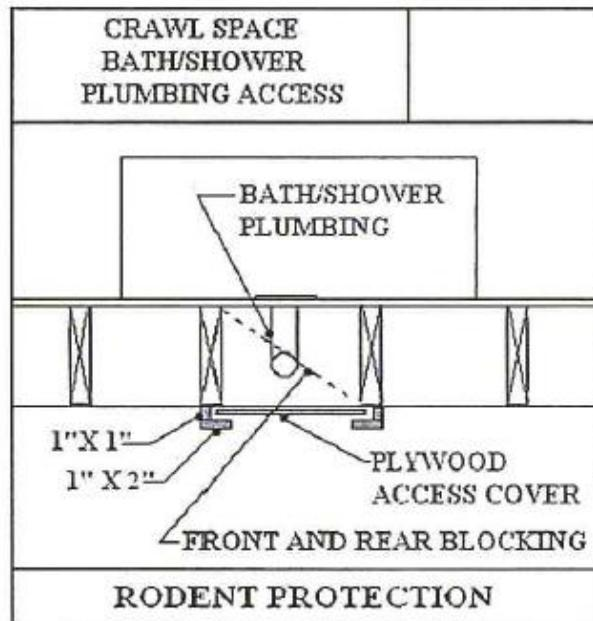

FIGURE A-1
- Tub waste openings in framed construction to crawl spaces shall be protected from rodent intrusion with no openings greater than 1/2". See **FIGURE A-1** for an approved method of protection/access. See **2022 CPC 312.12.3**.